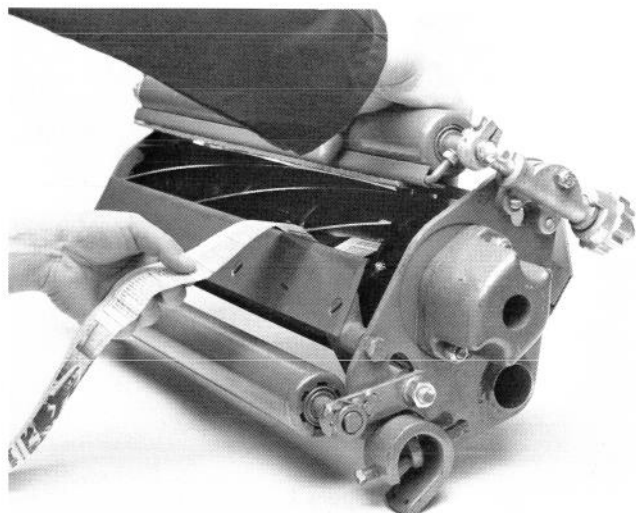

Figure 3
3. After the adjustment is accomplished, check to see if reel can pinch paper when inserted from the front and cut paper when inserted at a right angle (Fig. 3). It should be possible to cut paper with minimum contact between the bedknife and the reel blades. Should excessive reel drag be evident (more than 7 inch pounds [0.8 N•m]) it will be necessary to either back lap or regrind the cutting unit to achieve the sharp edges needed for precision cutting (see Toro reel sharpening manual, Form No. 80-300PT).